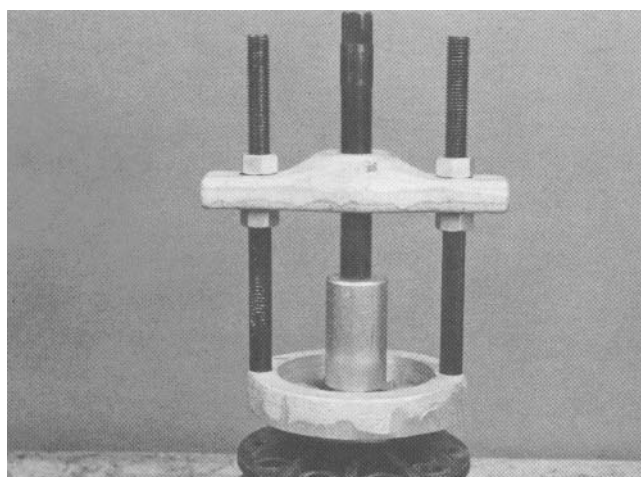

Figure 14
6. Do not remove the bearings from the differential case unless bearing failure is evident. It is recommended that whenever bearings are removed (regardless of usage) they must be replaced with new ones. Remove the case side bearing with a puller as shown (Fig. 14).